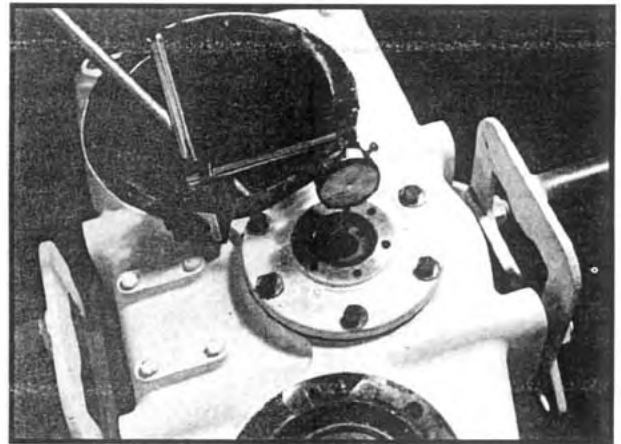

Fig 55
- Place the bearing cup into its bore. Install the rear cap with the original shim pack. Install the (6) cap screws and washers. Torque to specification.
- If the unit is equipped with a lubrication pump, mount a dial indicator such that the indicator tip rests against the end of the shaft. See Figure 55.